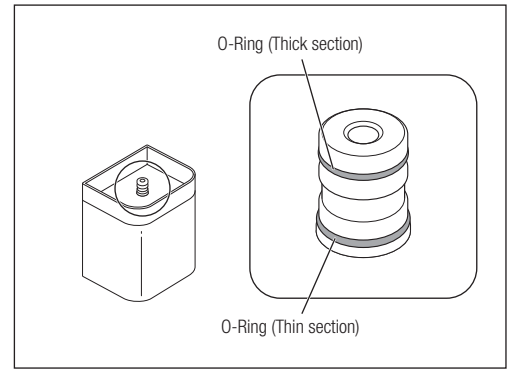

Fig. 46
- The O-rings are of different thicknesses. Be sure to place them in the correct groove (Fig. 46).
- 1) Remove the O-rings from the Chamber Base Connector using a needle, etc. (Fig. 46).